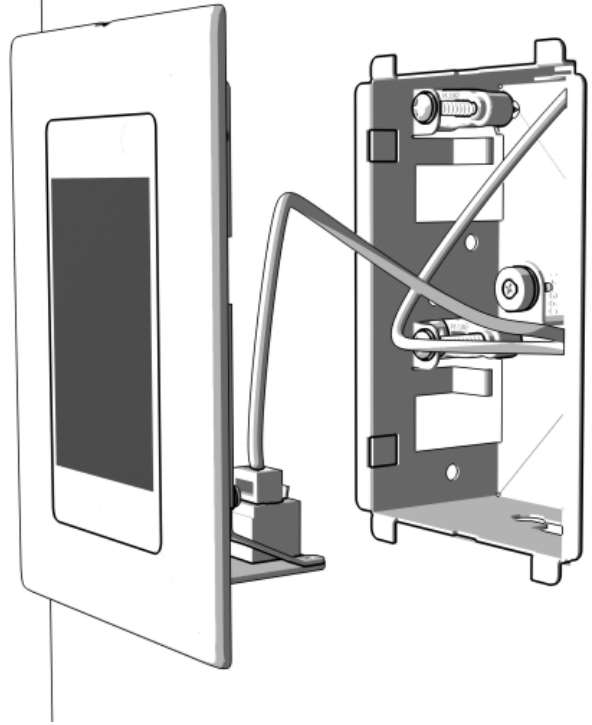

Figure 9: Attaching Assembly
14. Attach the faceplate to the utility box as shown in Figure 9.